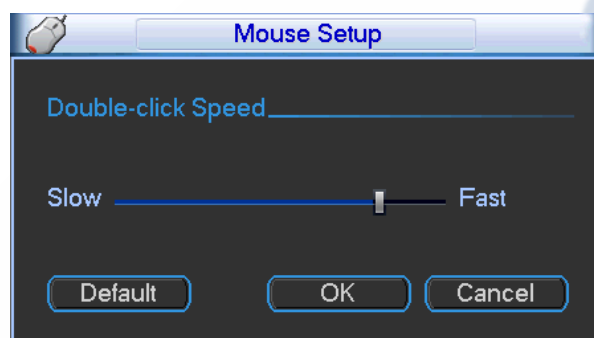

Figure 5-108
- Mouse property: Click mouse setup button, you can go to mouse setup interface. See Figure 5-108. You can set double click speed via dragging the slide bard. You can Click Default button to restore default setup.